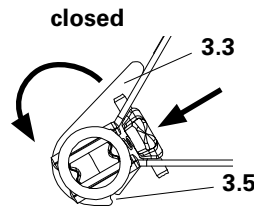

Fig. 26
2. In order to open the chord couplings (3.1), press and hold down the safety hook (3.2), turn the gripping plate (3.3) counterclockwise by 90° and then release the safety hook. (Fig. 26)